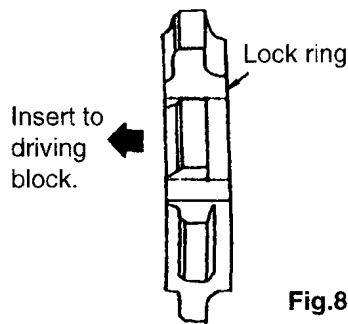

Fig.8
3. If the lock ring comes out, reassemble in the correct direction. (See Fig. 8)